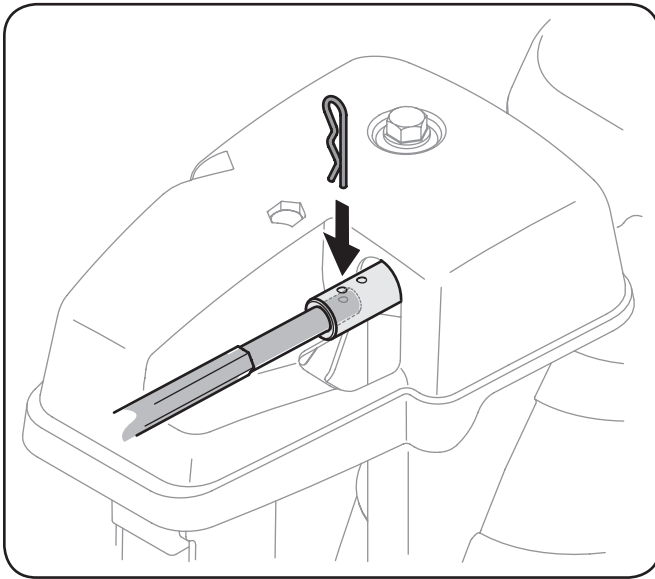

Figure 6-11
1. Remove the hairpin clip from the hole closest to the chute assembly on the chute rotation assembly. See Figure 6-11.
3. Reinsert the hairpin clip through this hole and the chute control rod. See Figure 6-11.